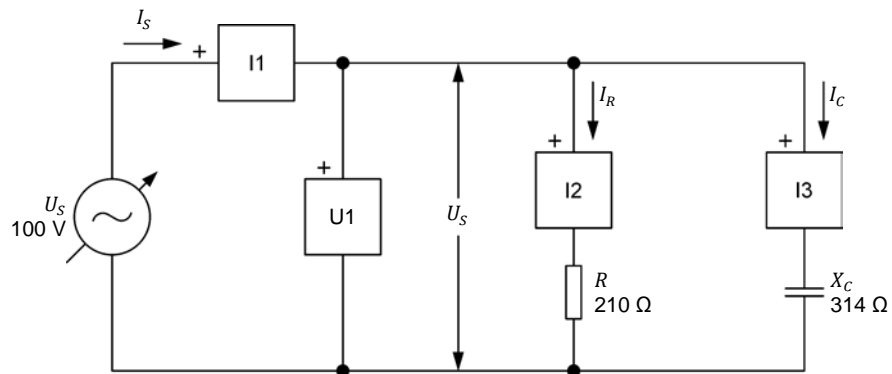

Figure 4-5. Parallel ac circuit containing a resistor and a capacitor, and set up for circuit analysis.
4. Set up the circuit shown in Figure 4-5.
6. Resolve the entire circuit shown in Figure 4-5 using the impedance calculation method.